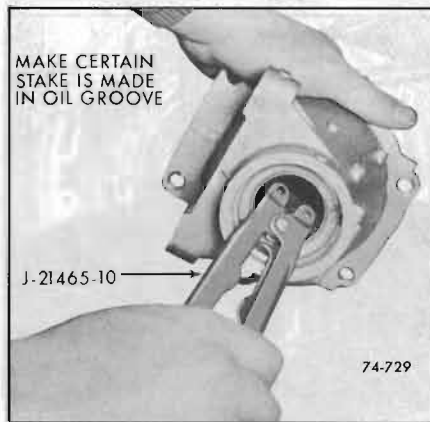

Figure 74-730
c. Using J-21465-10 stake bushing in oil ring groove. See Figure 74-730.